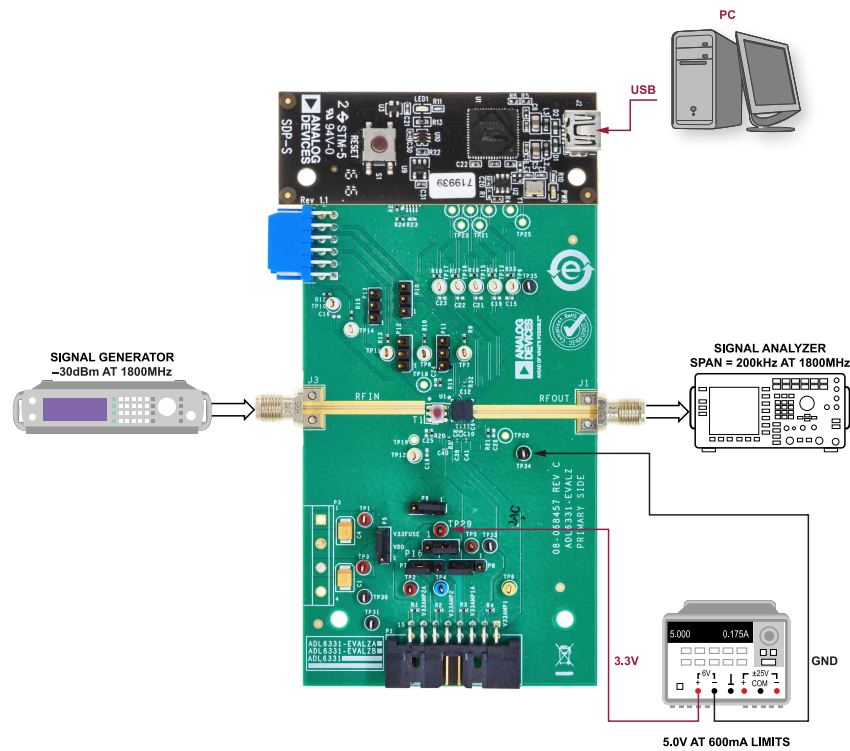
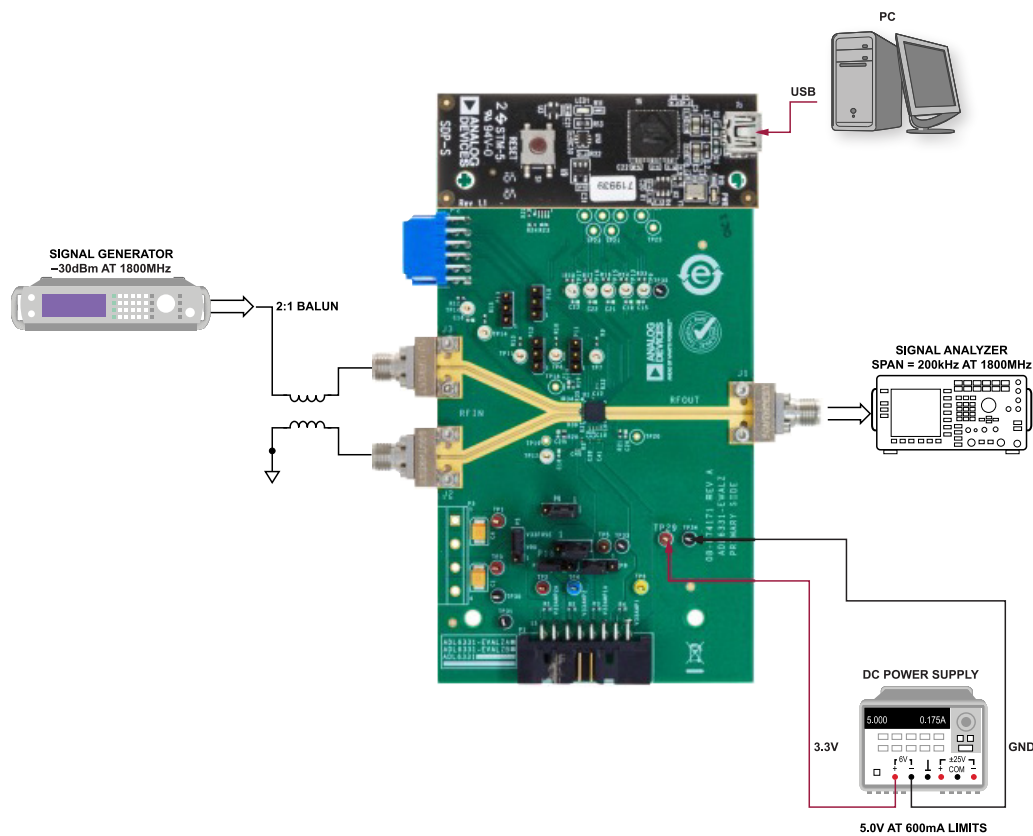
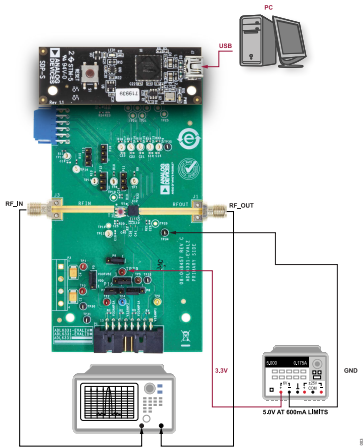
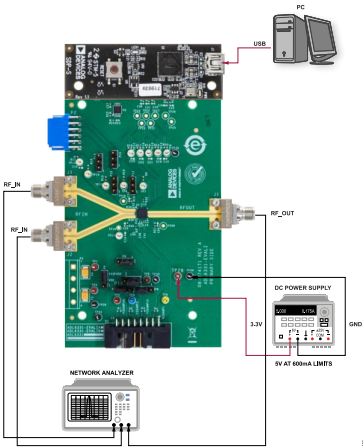

Figure 1. ADL6331-EVALZA Typical Measurement Setup (Option 1)
Figure 2. ADL6331-EVALZB Typical Measurement Setup (Option 1)
Figure 5. ADL6331-EVALZA Measurement Setup with Network Analyzer (Option 2)
Figure 6. ADL6331-EVALZB Measurement Setup with Network Analyzer (Option 2)
Network Analyzer	Connect to one port or two ports on the network analyzer (see Figure 5 and Figure 6)
Signal Generator	Set the source to -20 dBm output signal level (see Figure 1 and Figure 2)
Spectrum Analyzer	Connect to port (see Figure 1 and Figure 2)
1. Configure the hardware according to the Hardware Setup section and shown in Figure 1 and Figure 2, or Figure 5 and Figure 6.